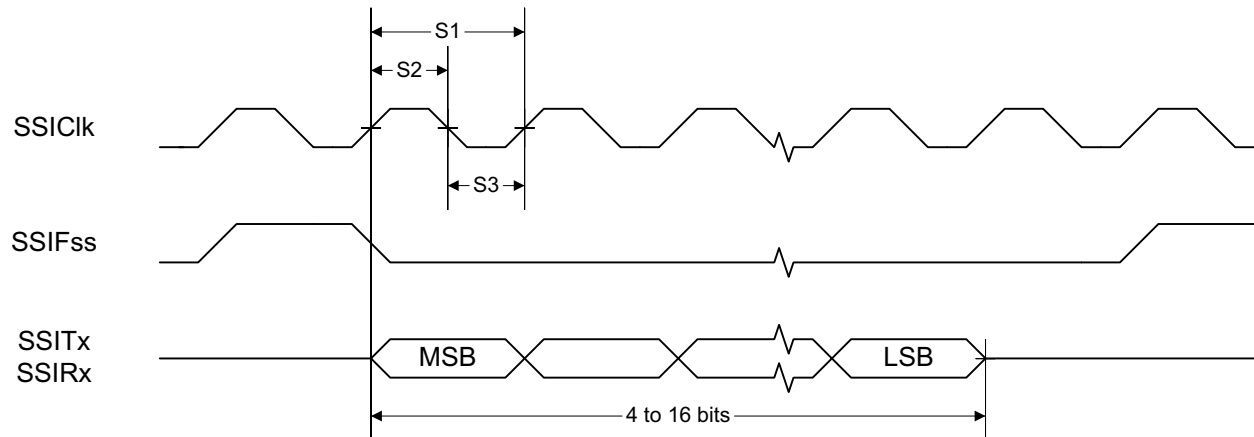
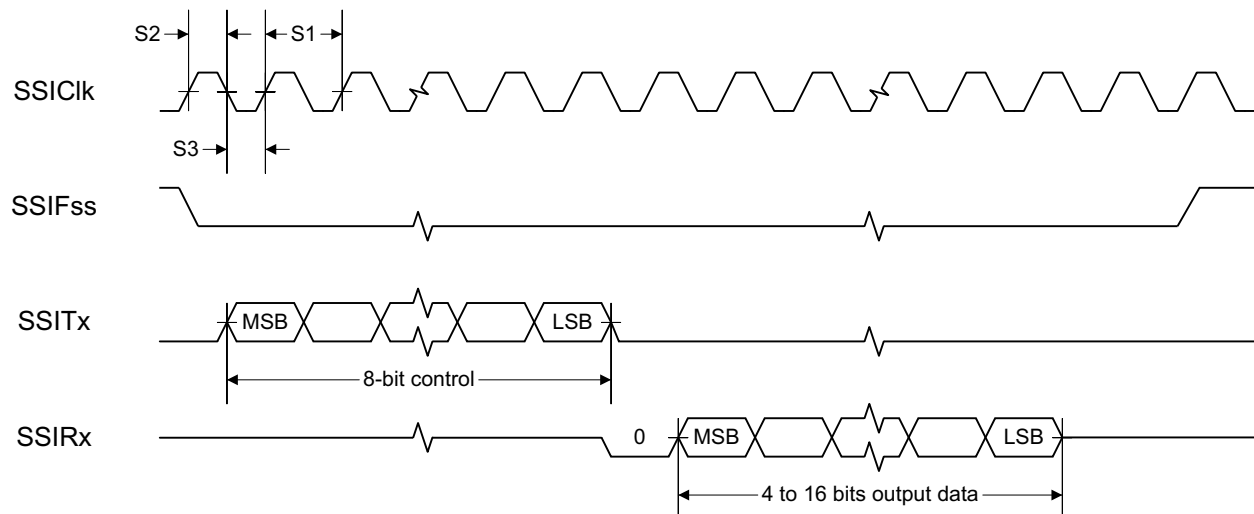
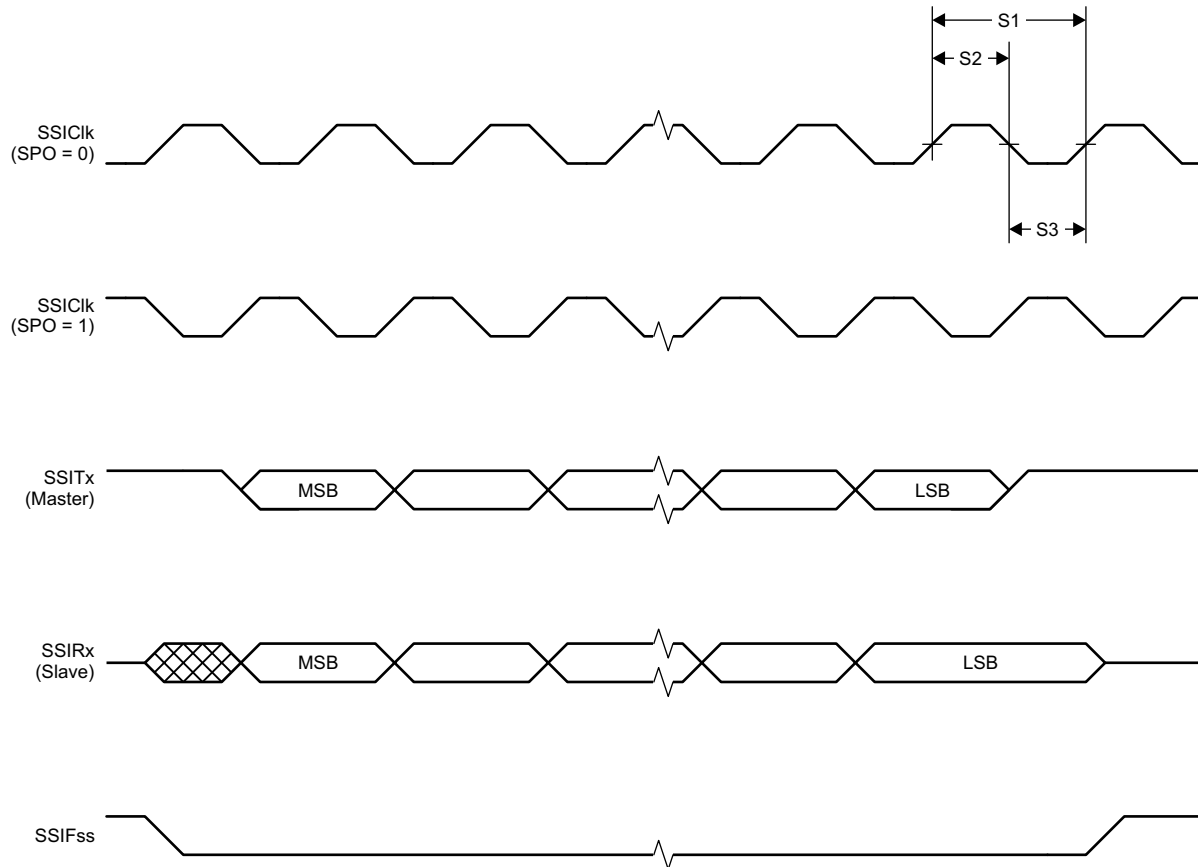

Figure 5-1. SSI Timing for TI Frame Format (FRF = 01), Single Transfer Timing Measurement
Figure 5-2. SSI Timing for MICROWIRE Frame Format (FRF = 10), Single Transfer
Figure 5-3. SSI Timing for SPI Frame Format (FRF = 00), With SPH = 1
- (1) For smaller coin cell batteries, with high worst-case end-of-life equivalent source resistance, a 22-μF VDD input capacitor (see Section 7.1.1) must be used to ensure compliance with this slew rate.
- (2) Applications using RCOSC_LF as sleep timer must also consider the drift in frequency caused by a change in temperature (see Section 5.14).
- (3) T_A = -40°C to +85°C, V_{DD} = 1.7 V to 3.8 V, unless otherwise noted.
- (4) T_c = 25°C, V_{DD} = 3.0 V, unless otherwise noted. Device operating as slave. For SSI master operation, see Section 5.24.
- (5) Refer to the SSI timing diagrams Figure 5-1, Figure 5-2, and Figure 5-3.
(1) Device operating as master. For SSI slave operation, see Section 5.23.
(2) Refer to SSI timing diagrams Figure 5-1, Figure 5-2, and Figure 5-3.